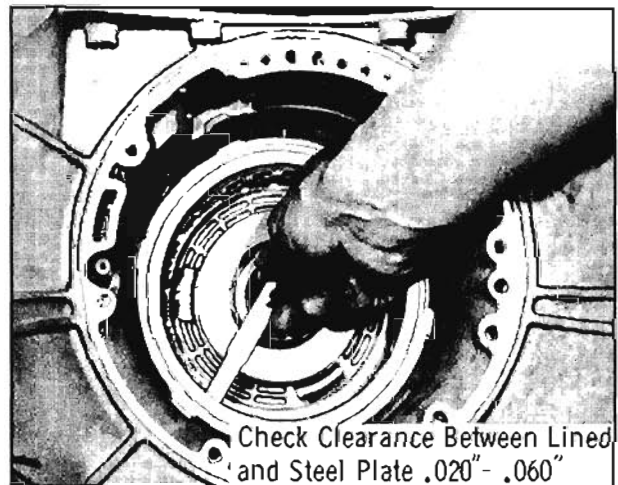

Fig. 6-425 Checking Clearance
9. Insert feeler gauge between any reaction plate and adjacent faced plate. (Fig. 6-425) Clearance for different reaction plates are shown below.